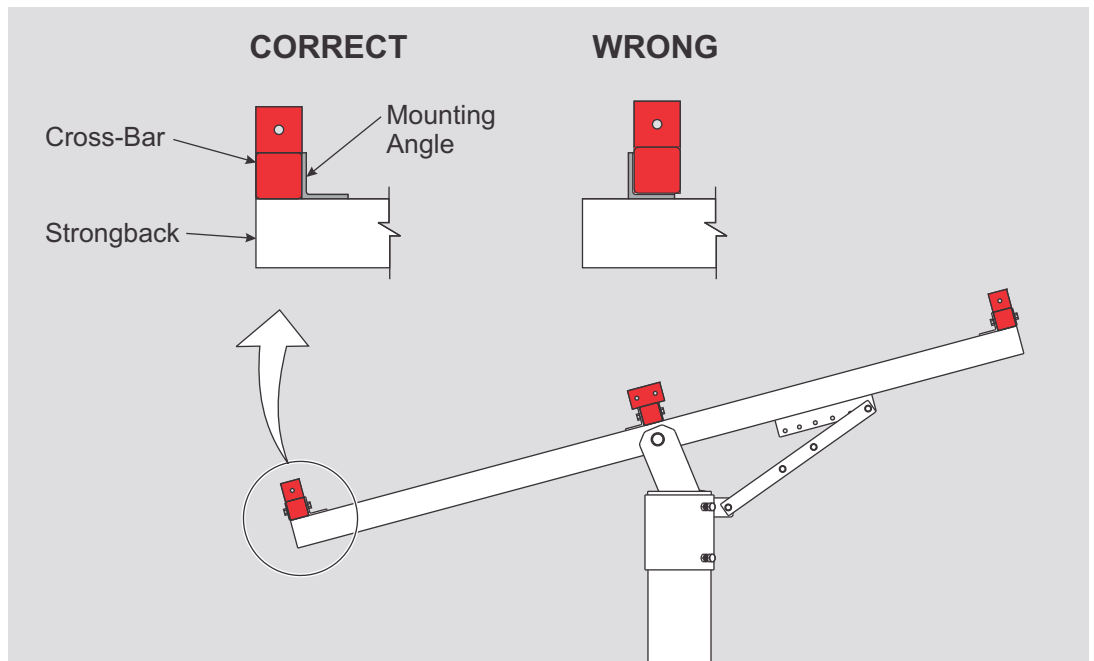

Figure 3-2: Cross-Bar Positioning relative to Mounting Angles
Cross-Bars are mounted to the outside of the Strongback mounting angles (these are welded to the Strongback). They are not nested into the Mounting Angles. (See Figure 3-2)
- C. Continue using these steps to install the north and south most Cross-Bars to the Strongback. Refer to figure 3-2 as needed for proper positioning.